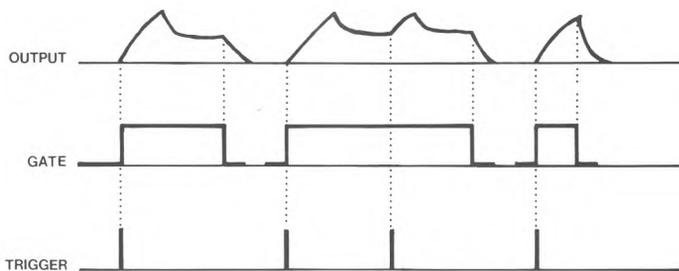

FIG.2 TIMING DIAGRAM / DUAL ADSR
**Applying the ADSR.** I hope the above shows that all eventualities are covered, and the ADSR does work as expected. Figure 2 shows a timing diagram that should make this all clear. However, there is one option that I wanted to add to the circuit, and as it turned out this was fairly